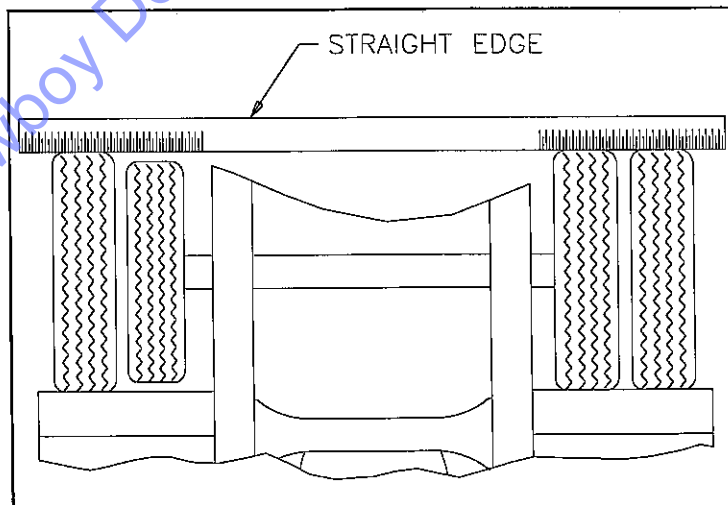

Fig. 4-18 Straight Edge Method
**b. Straight Edge or String Method:** (This method cannot be used if tire and wheel assemblies are not mounted on the axle.) Jack semitrailer up until the wheels are off of the ground. Hold a straight edge against the tires of both ends of an axle. A gap at one tire indicates a smaller tire. A maximum of  $1/8$ " gap is allowed (See **Figure 4-18**).